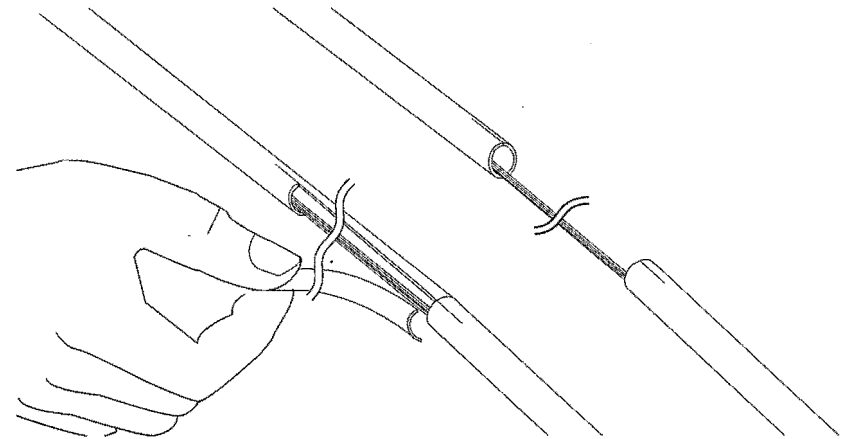

Figure 19
- b) Carefully pull the scored tube apart. Remove both sections of the tube at the other ring cut (Figure 19).